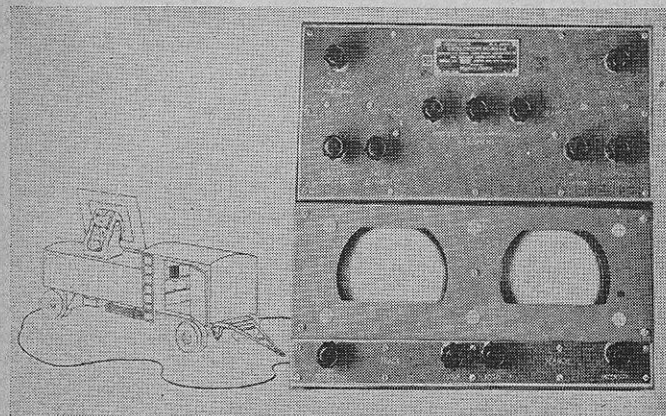

FIGURE 11.—Oscilloscope unit.
■ 11. OSCILLOSCOPES.—Figure 11 shows one of the oscilloscope units in the cab, on which target echoes are registered and by observation of which the target can be tracked. Three of
these units are provided, one each for the range, azimuth, and elevation operators. As may be seen in figure 11, each unit is equipped with two cathode ray tubes. The left hand tube, commonly called the TRACK scope, is connected with the TRACK system. The right-hand or SEARCH scope is connected with the SEARCH system. The tubes operate simultaneously so that each operator has before him at all times the results of both the SEARCH and TRACK system signals. Since the SEARCH system employs a much broader antenna pattern and has a longer range, targets are normally picked up by it before they are seen on the TRACK scopes. Any target being followed on the TRACK scopes, however, also appears on the SEARCH scopes.